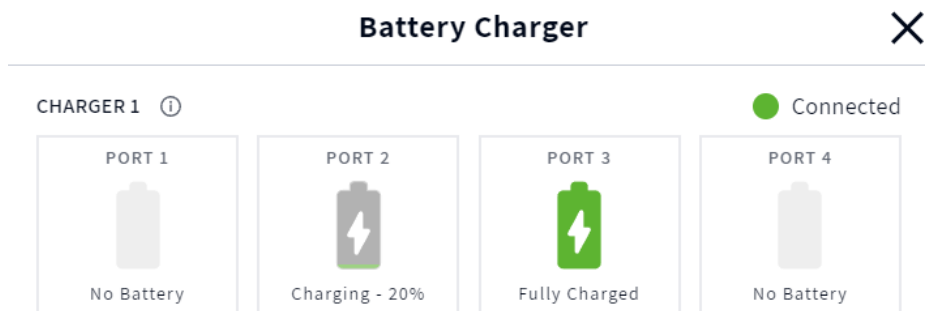
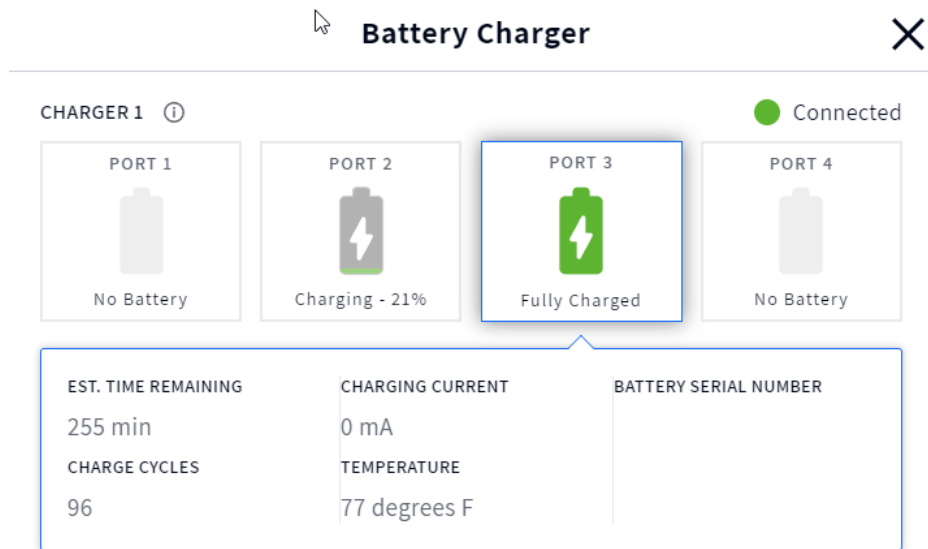

Fig. 1.9
Fig. 1.10
4. Fig. 1.9 shows that Ports 2 and 3 have docked batteries. The battery in Port 2 is charging while the battery in Port 3 is fully charged. You can also press on a port tile for more details. For example, when you tap on the Port 3 tile, another window opens below it and displays details about the battery docked in it, see Fig. 1.10.